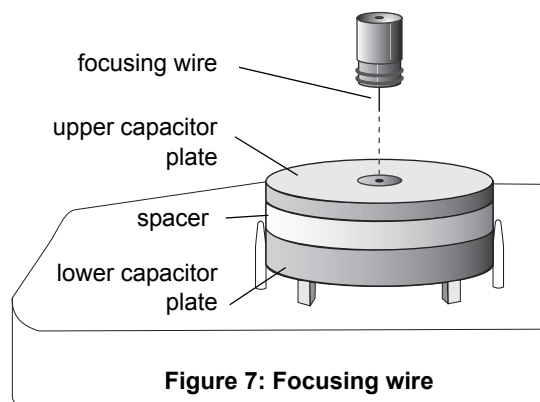

Figure 7: Focusing wire
2. Unscrew the focusing wire from its storage place on the platform and carefully insert it into the hole in the center of the upper capacitor plate (Figure 7.)